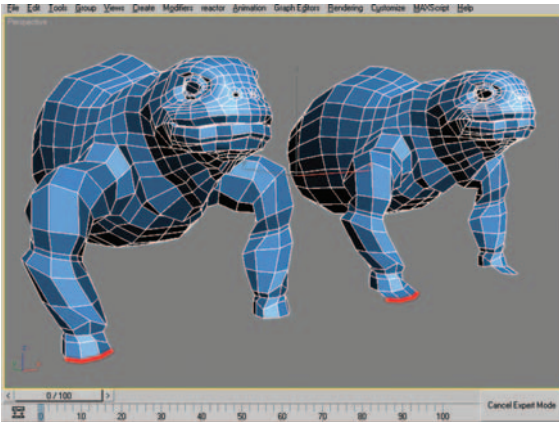

Figure 9.51 Edge selection before and after shift-drag.
12. Select the three edges seen in Figure 9.51 (left) and shift-drag them forward to establish the top of the foot (Figure 9.51, right).